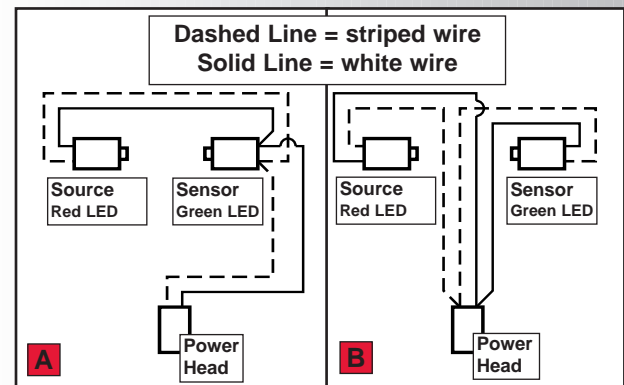

Fig. 3-5
- Route wire [29] using either method shown **Fig. 3-5.**